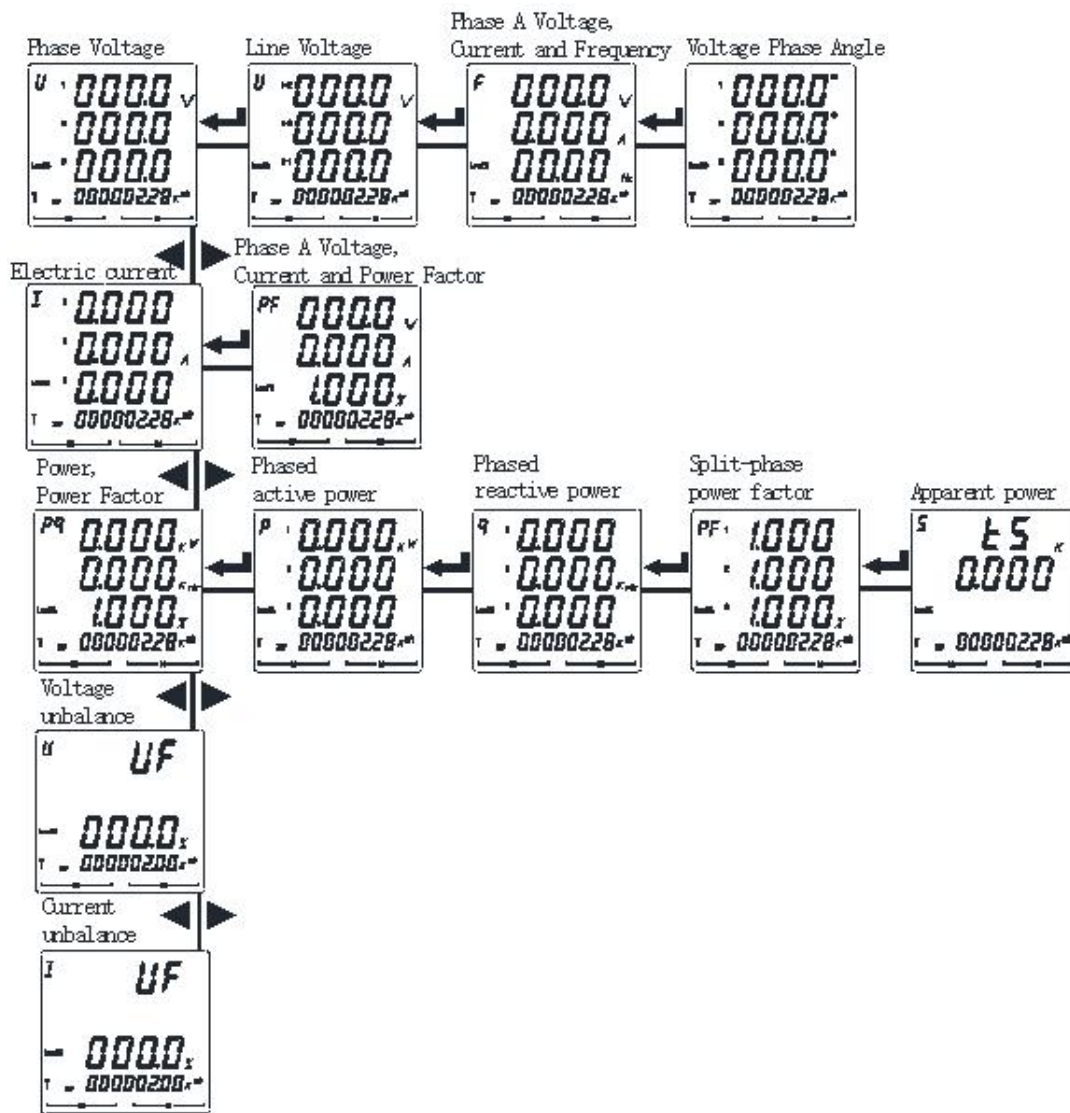

Figure 13
5.2.2 View the power parameters of the PM-310/320 as shown in Figure 13.